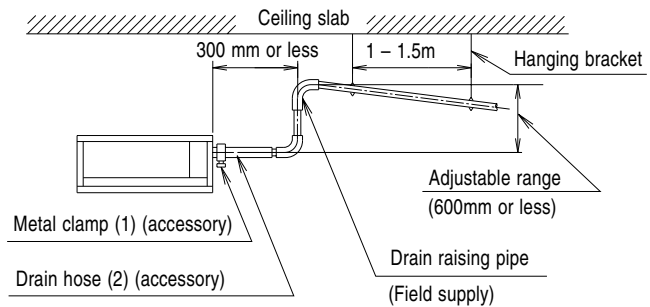

Fig. 13
- Place the drain raising pipe vertically and make sure it is no further than 300mm from the unit. (Refer to Fig. 13)